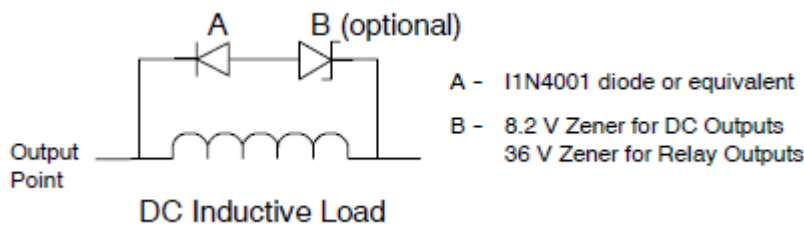

Figure 3-4 Suppression Circuit for a DC Load
Figure 3-4 shows a sample suppression circuit for a DC load. In most applications, the addition of a diode (A) across the inductive load is suitable, but if your application requires faster turn-off times, then the addition of a Zener diode (B) is recommended. Be sure to size your Zener diode properly for the amount of current in your output circuit.